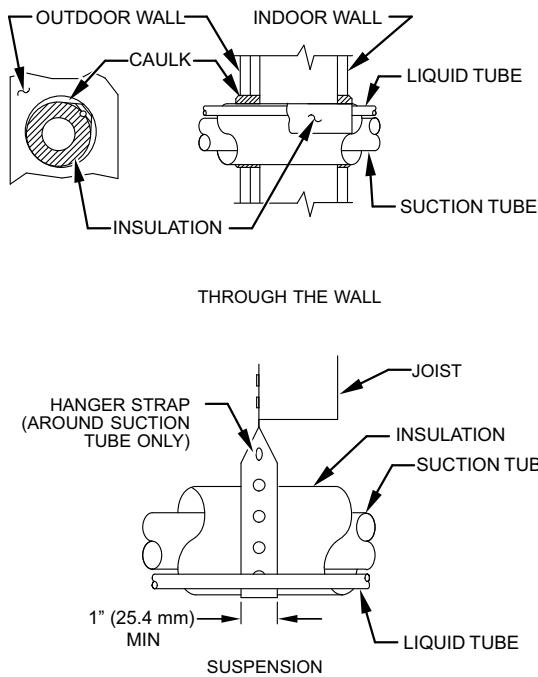

Fig. 1 – Piping Installation
6. When passing refrigerant tubes through the wall, seal opening with RTV or other pliable silicon-based caulk. (See Fig. 1.)
8. Do not suspend refrigerant tubing from joists and studs with a rigid wire or strap which comes in direct contact with tubing (see Fig. 1.).
10. When necessary, use hanger straps which are 1 in. (25 mm) wide and conform to shape of tubing insulation. (See Fig. 1.)